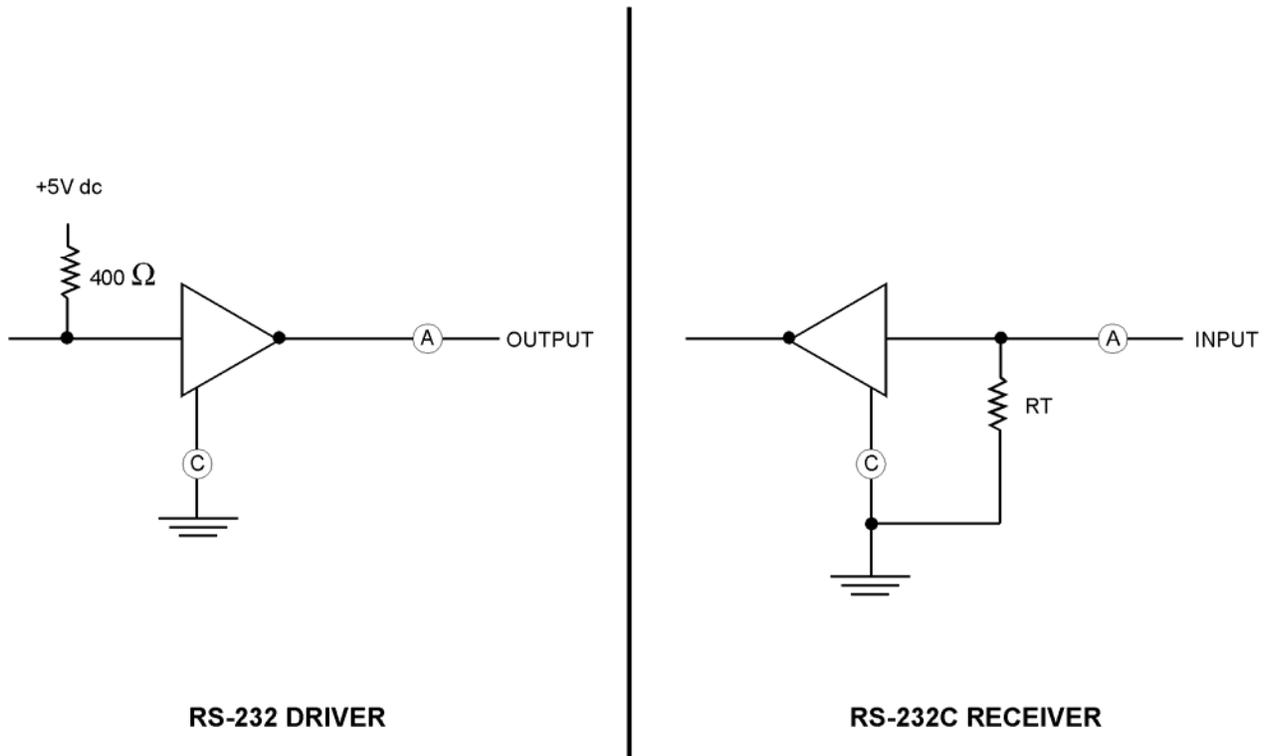

Figure 7-3. RS-232C Driver/Receiver Interface
**7.3.1.3. Printer Driver.** The required voltage absolute value of the driver output voltage is from 3 Vdc to 15 Vdc into a 3K ohms to 7K ohms load at the host. Open circuit voltage shall not exceed 25 Vdc. The maximum voltage difference between signal levels is 1 volt (+3 Vdc plus in volts -3 Vdc minus in volt equals 1 volt difference). Voltage is measured between (A) and (C) (Figure 7-3).
**7.3.1.4. Printer Receiver.** The printer receiver operates in the correct polarity from +3 Vdc differential voltage between (A) and (C) (Figure 7-3) up to the maximum  $\pm 12$  Vdc as described in paragraph 7-3.1.2. The printer receiver provides protection against printing spurious characters when the host is disconnected due to power failure or damaged cables.
**7.3.1.5. Driver/Receiver Signal Voltage.** Steady-state voltage measured between (A) and (C) (Figure 7-3) is used as a base to check rise and fall rates of driver/receiver signal voltage. The following signal voltages indicate correct operating rise and fall rates for the printer.